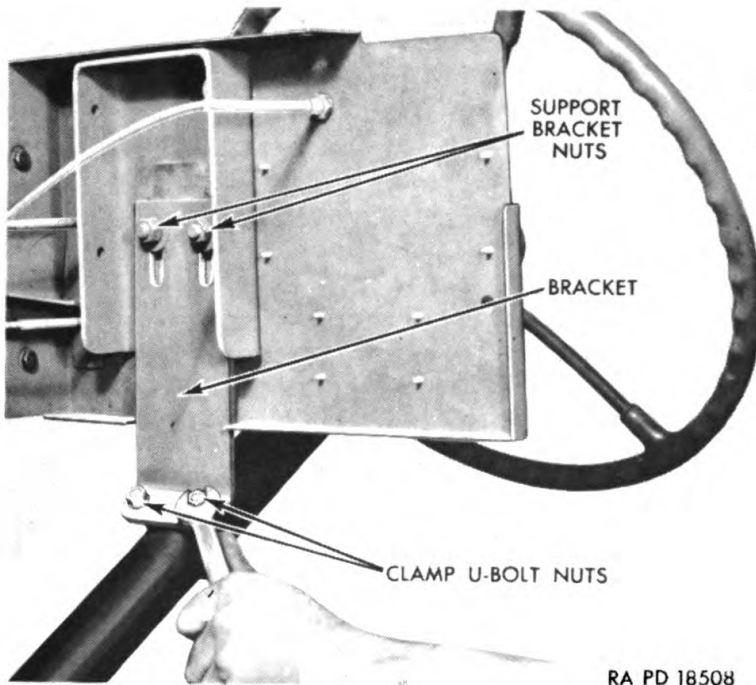

Figure 211 — Removing Steering Gear Column Tube Support
d. **Disconnect Steering Column at Instrument Panel** (fig. 211). Remove nuts and lock washers from U-bolt at instrument panel. Remove U-bolt.